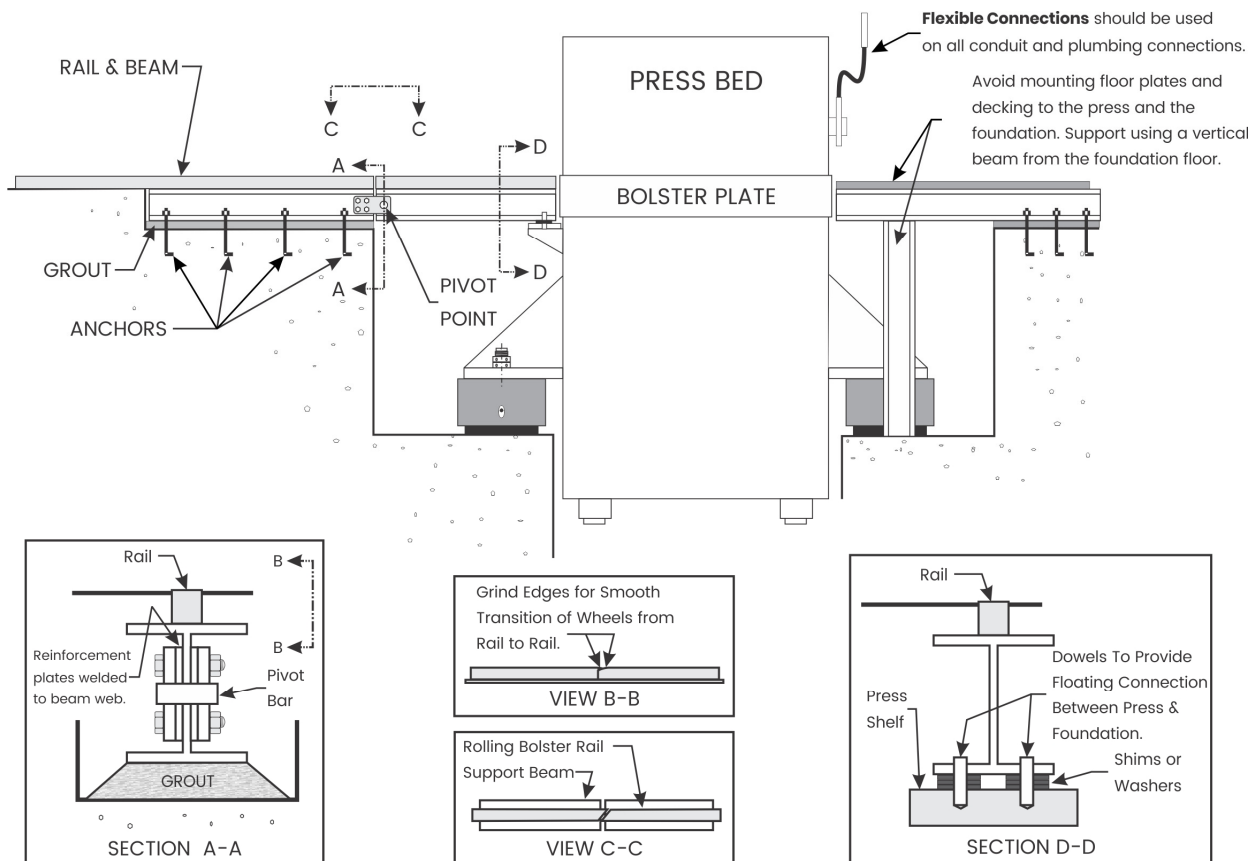

FIGURE 5
2) METHOD TWO See Figure 5
- In this method, each rolling bolster beam is divided into two. One section is anchored to the floor and the other is designed to float with the press. The ends of the floating sections are supported by pivot points located at the edge of the pit and on the press bed as shown in Figure 5. The beam/rails are restricted from moving horizontally using guide pins and clearance holes or stops welded on the support shelf to contain the sides of the beam/rails.